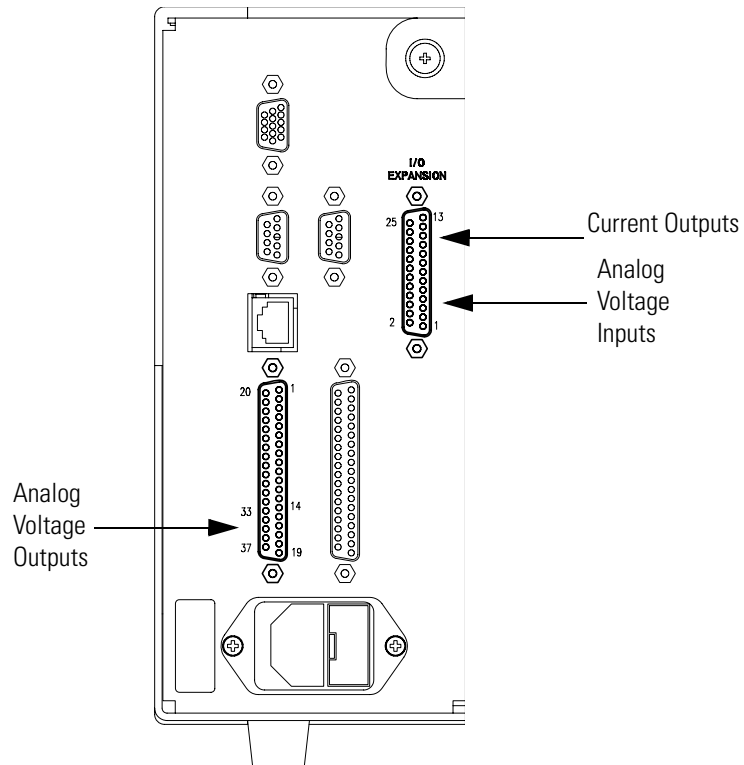

Figure 7-7. Rear Panel Analog Input and Output Pins
1. Connect a meter to the channel to be tested. Figure 7-7 shows the analog output pins and Table 7-4 identifies the associated channels.
1. Connect a meter to the channel to be adjusted and set to voltage or current as appropriate. Figure 7-7 shows the analog output pins and Table 7-4 identifies the associated channels.
1. Connect the known DC voltage source to the input channel (1-8) to be calibrated. Figure 7-7 shows the analog input pins and Table 7-5 identifies the associated channels.